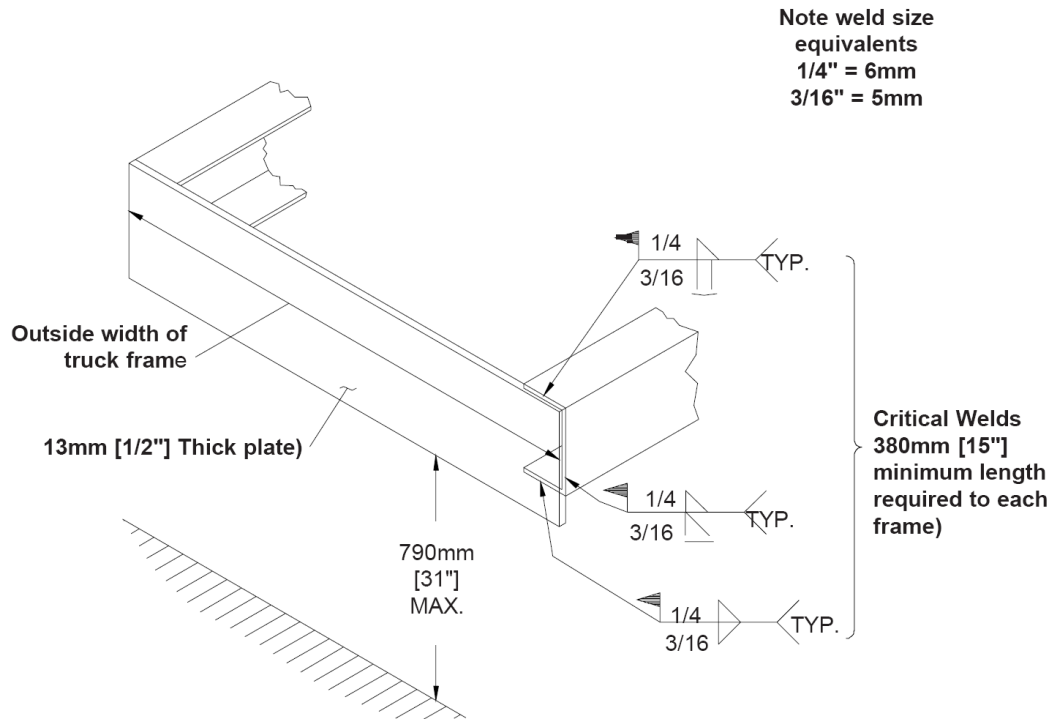

Figure 2
5. Cut a 13 mm [1/2"] thick piece of steel plate to shape and weld it between the rear frame members (see Figure 2). Each side of the plate should be welded to the Frame Member with a minimum 380 mm [15" long] 6 mm [1/4"] weld.